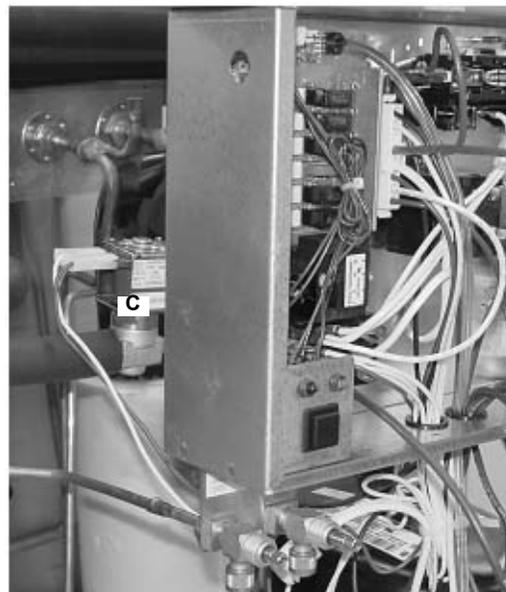

Figure 52.
54. Connect the hot gas harness (C) (white and red leads) to the hot gas valve (Figure 52).